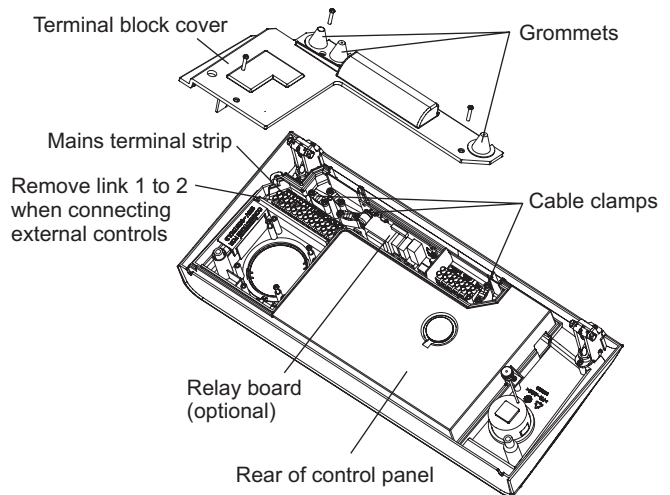

Fig. 4.15
4.10 CONNECT THE MAINS SUPPLY - Fig. 4.15
Remove the three screws securing the terminal block cover from the back of the control box (see Fig. 4.15). Pass the mains supply cable through the cable clamp and connect as follows:- Brown to L, Blue to N and Green/Yellow to \perp . Ensure correct polarity.